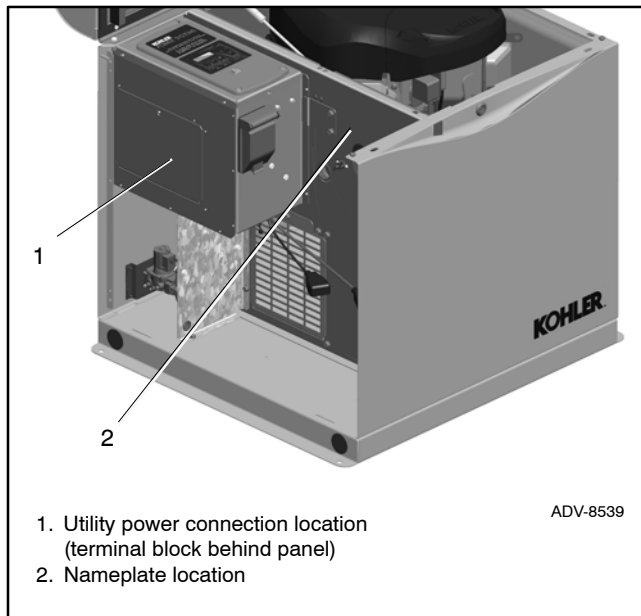
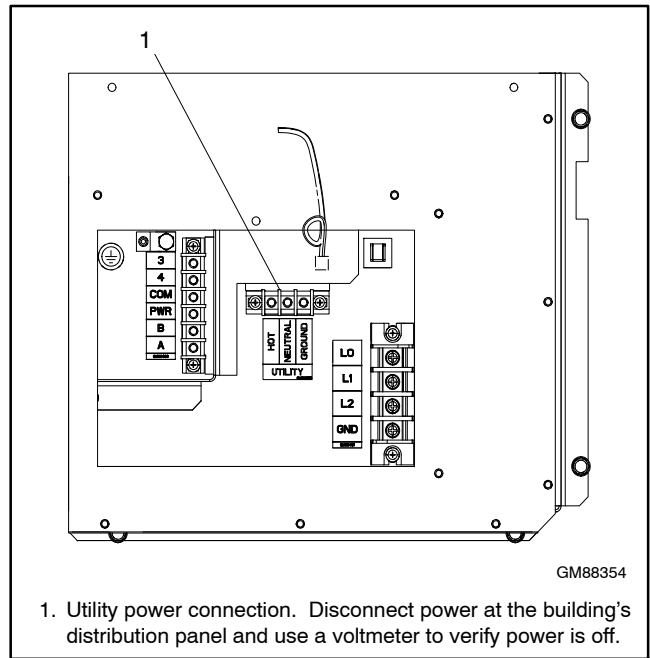

Figure 9 Utility Power Connection and Nameplate Locations
Figure 10 Utility Power Connection Detail
4. Disconnect utility power to the generator set by opening the circuit breaker in the building's distribution panel. Use a voltmeter to verify that utility power has been disconnected. See Figure 9 and Figure 10 for the utility power connection location.